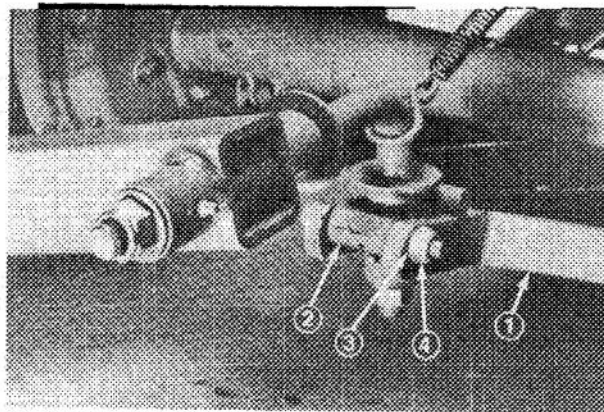

Figure 15
1. Align mounting holes in drawbar with mounting hole in lift bail housing. Offset hole in drawbar should be positioned up (Fig. 15).